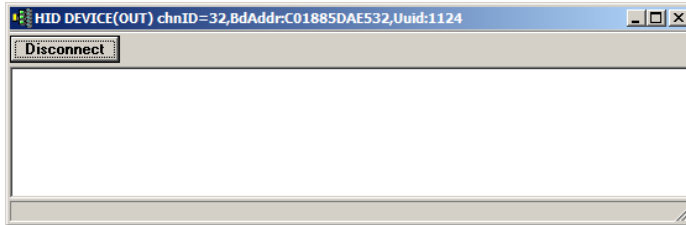

Figure 54: HID emulation window
3. Click **Connect**. An HID emulation window displays (Figure 54).